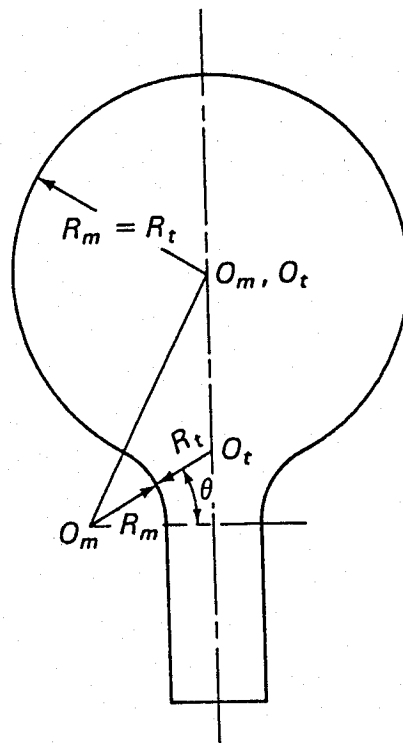

Figure 2
- (b) Consider the expansion chamber shown in Figure 2 with a sphere of diameter 500mm, a cylindrical pipe of diameter 100mm and a transition piece of radius  $R_m = 75$  mm.